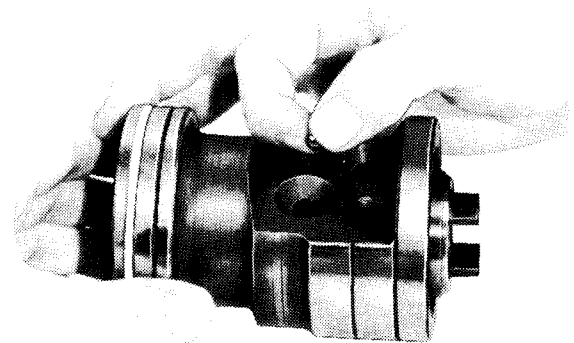

Fig. 11-84 Installing Balls in Rack-Piston Nut
(4) Align ball return guide holes with worm groove. Load 16 balls into guide hole nearest piston ring, while slowly rotating worm counterclockwise to feed balls through circuit (fig. 11-84). Alternate black balls with standard balls.